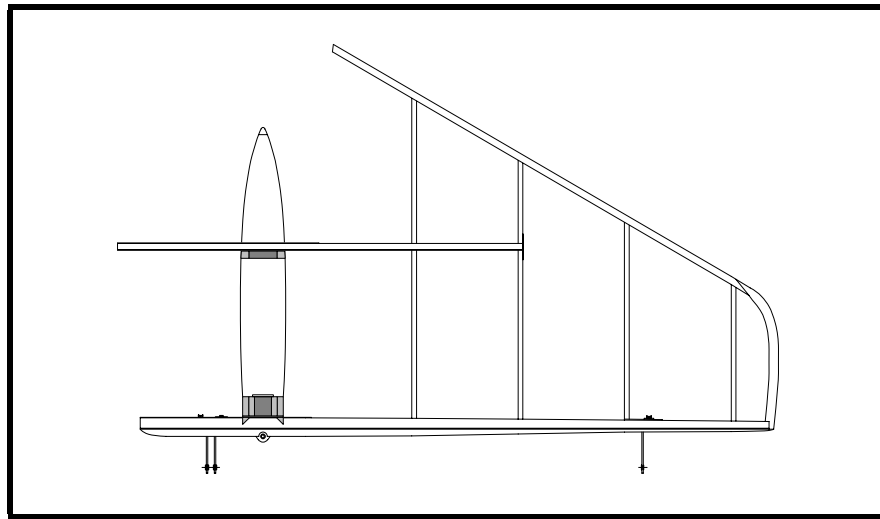

Figure 10
To make it easier to clamp the ribs to the leading edge strip, triangular blocks may be tacked to the leading edge strip to provide a square clamping surface. See Chapter 19, Figure 10. A small block of wood is inserted into the gusset pocket for clamping.
- ❑ Fit and glue the fin tip bow, P/N 415-1, at the end of the fin to the spar and to the leading edge strip. This piece may be of solid spruce or a lamination. See Figure 10.